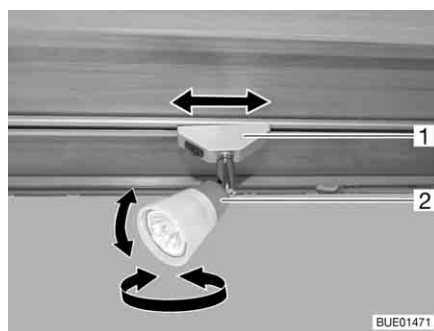
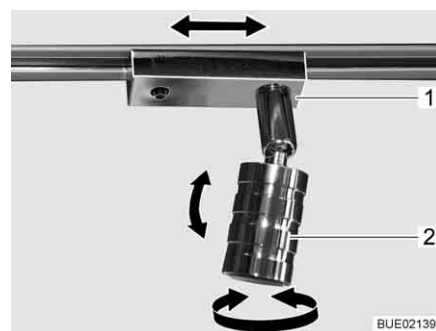

Fig. 60 Spotlight
Fig. 61 Spotlight (alternative)
Rotating: ■ Grasp the housing (Fig. 60,2 or Fig. 61,2) and turn it.
- Grip socket (Fig. 60,1 or Fig. 61,1) and turn by approx. 45°.
- Grip socket (Fig. 60,1 or Fig. 61,1) and turn by 90°.